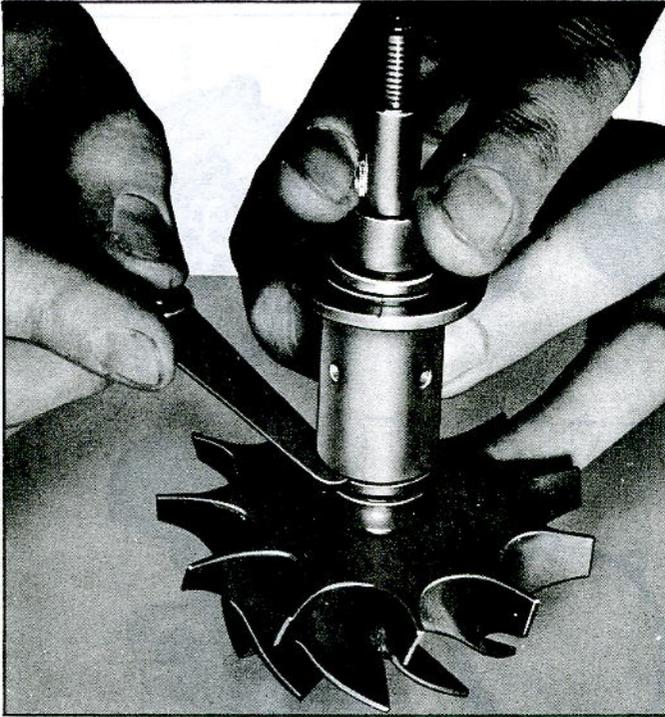

Fig. 45—Measuring Bearing-to-Shaft End Play
- b. Hold the mating ring against the shoulder on the turbine shaft, then hold the bearing up against the mating ring and measure the clearance between the bearing and lower shoulder of the shaft using a feeler gauge (fig. 45).